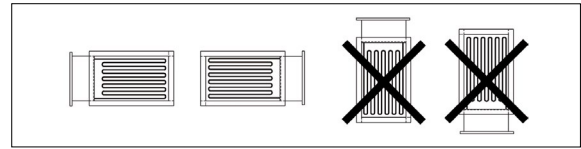

fig. 4
3. Install the heater in a horizontal or vertical duct in an approved installation position as shown in Fig. 4.
The heater can be installed in a horizontal or vertical duct. Figure 4 shows permitted and prohibited installation positions.